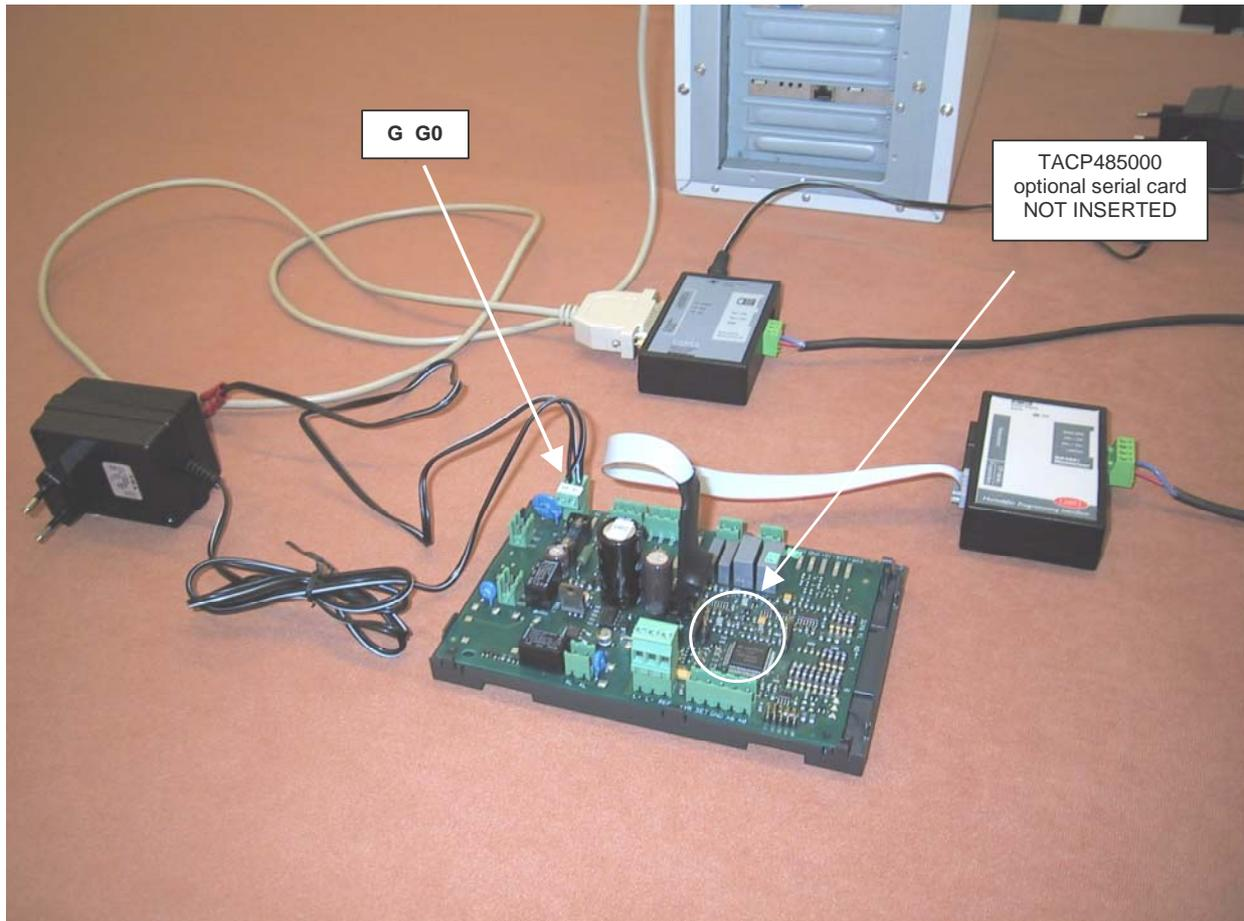

Figure 29
- the 230VAC/24VAC transformer (Figure 8) for feeding Boardcontroller controller in terminals G-G0 through the plug-in connector (Figure 29). Note: in this case, the HPI does not need to be fed at 24VAC.